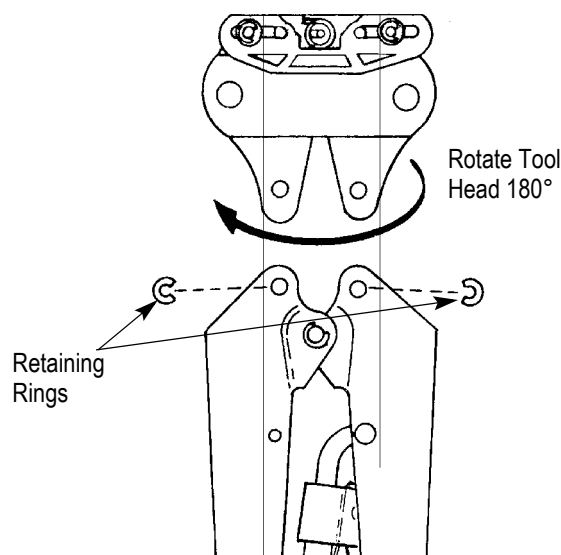

Figure 2
*To reverse the tool head for individual preference of using the tool with either hand, first remove the retaining rings and pins from the ends of the handle. Turn the head 180° as shown in Figure 2; then re-assemble.*